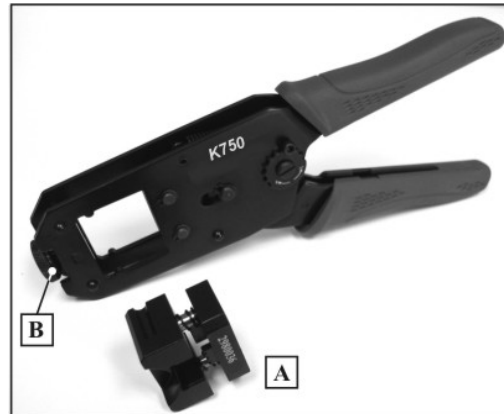

Fig.2.
- ❑ To install the dies set, unscrew dies set locking screw (B) (Fig.2.), then fully open handles of the handtool. Squeeze the dies set (A) slightly, position it as shown on the picture Fig.2. and insert it into the foreseen slot on the handtool. After making sure that it is correctly aligned with the handtool, tighten locking screw (B) to prevent dies set from falling out of its position and check if handtool opens and closes with no difficulties.